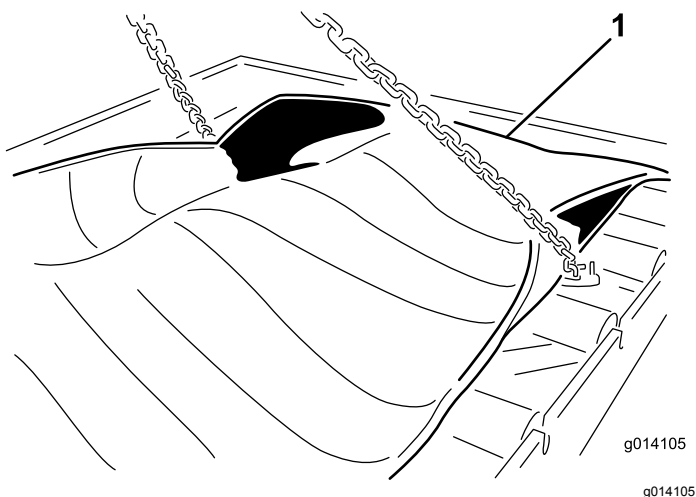

Figure 59
23. Remove the 24 bolts to release the cartridge (Figure 59).